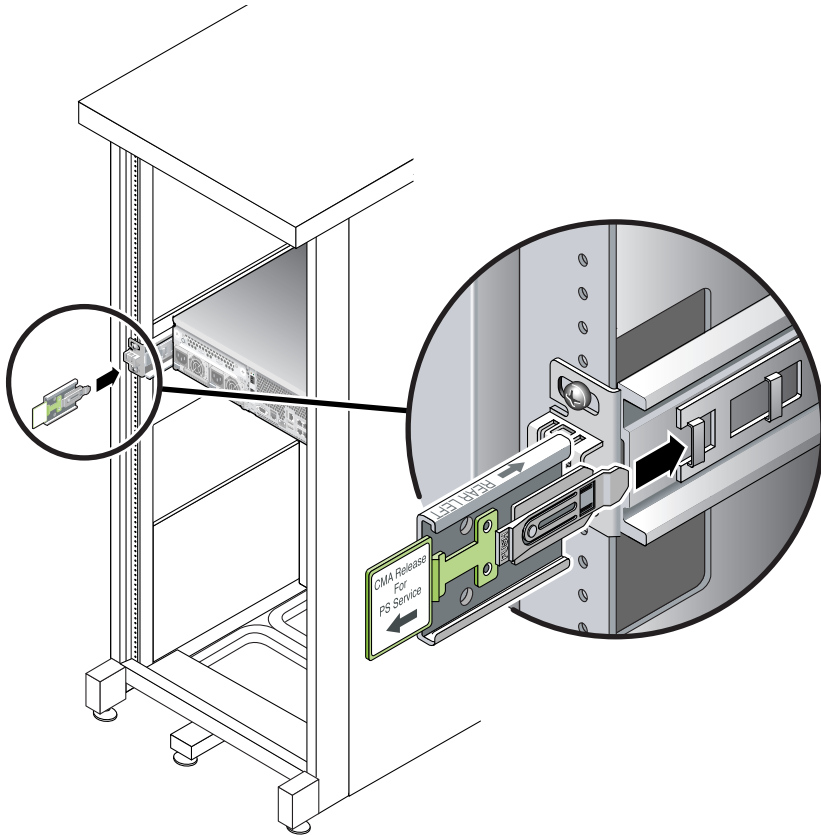

FIGURE 2-18 Inserting the CMA Rail Extension Into the Back of the Left Slide Rail
1. At the back of the rack, plug the CMA rail extension into the end of the left sliding rail assembly (FIGURE 2-18).